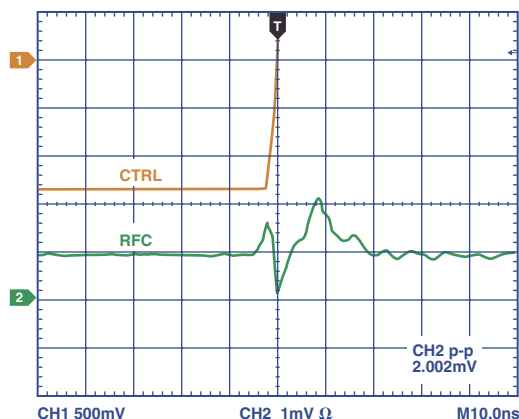

Figure 5. Video feedthrough.
**A:** **Video Feedthrough** (Figure 5) is the spurious dc transient present at the RF ports of the switch when the control voltage is switched from high- to low-, or low- to high, without an RF signal present. This is analogous to *charge injection* of a typical analog switch. It is measured in a 50-ohm test setup, with 1-ns (rise-time) pulses and a 500-MHz bandwidth.